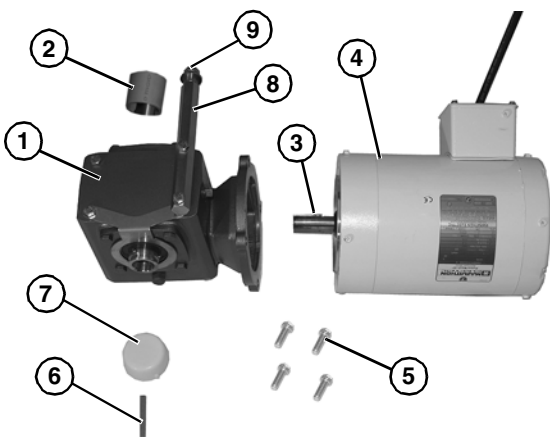

Figure 25
1. Locate components of Figure 25.